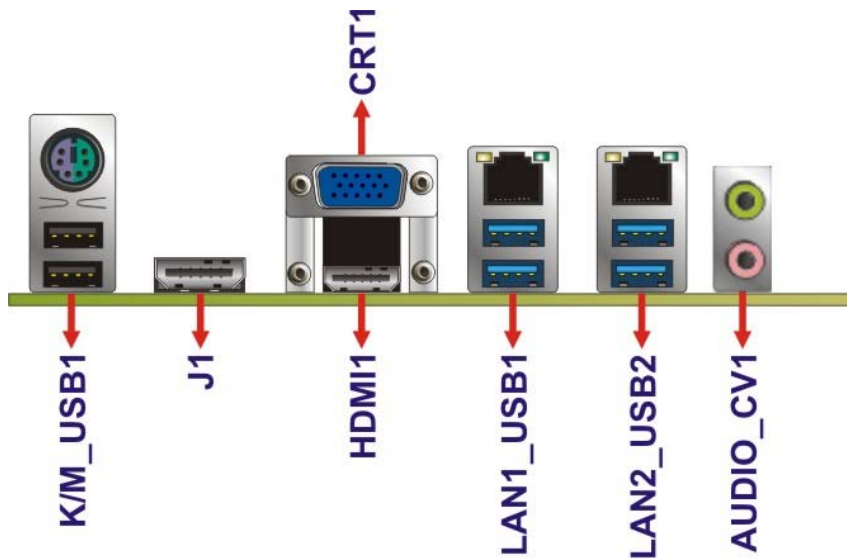

Figure 3-28: External Peripheral Interface Connector
Figure 3-28 shows the KINO-AQ170 external peripheral interface connector (EPIC) panel.
CN Location: See Figure 3-28
- CN Location:** See **Figure 3-28**